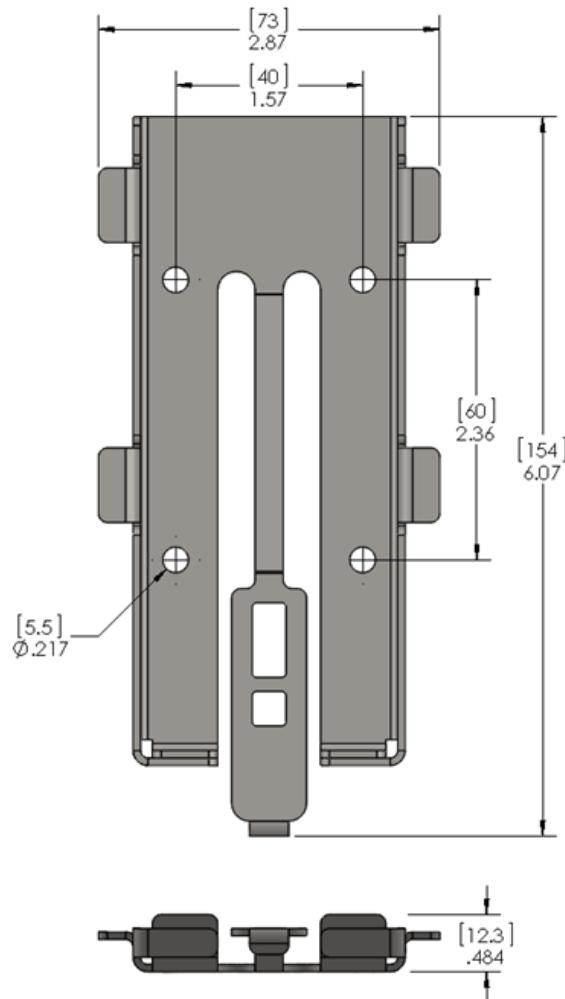

Figure 3 - Sheet Metal Mount
**Sheet Metal Quick Release Mount, PN: 310-003470 (Figure 3)**